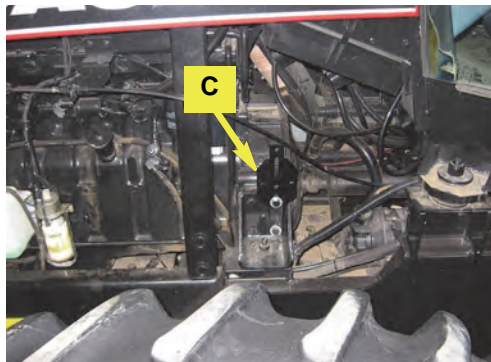

Figure 2c: Installed mounting bracket on motor mounting bolts
- b. Use the existing bolts to mount the bracket (**C**) onto the hood brace (Figures 2c and 2d).